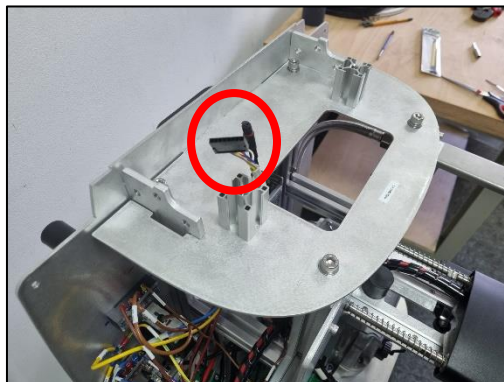

Fig. 5
3. Remove the panels plugs (Fig. 5).
7. Reassemble the switch panel. Plug in the panel connectors in Fig 5.